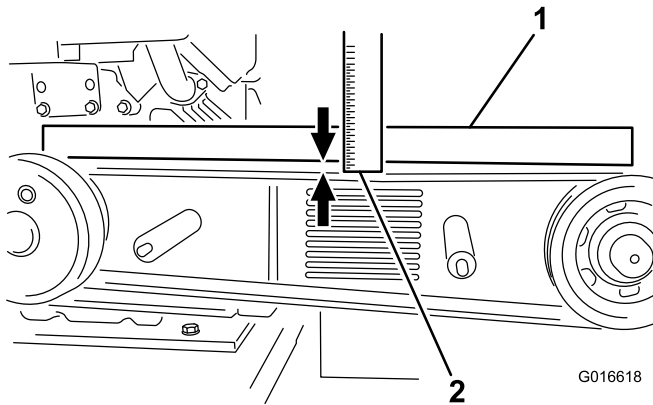

Figure 27
- Lay a straightedge across clutch and flywheel pulleys, tighten belt tension bolt so there is 1 cm (0.40 inch) of flex in the belt when pushing down with 6.8 kg (15 lbs) force, at mid-span (when re-tensioning a belt in use) or with 8 kg (18 lbs) force when installing a new belt (Figure 27).